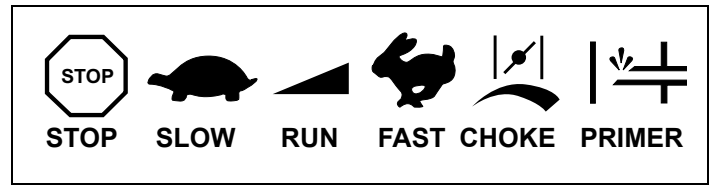

Figure 17. Typical Engine Symbols
2. Move Equipment Control (see equipment manufacturer's instructions) or Engine Throttle Control to "FAST" position, if present. See Figure 17.
3. Move Equipment Control (see manufacturer's instructions) or Engine Throttle Control to "FAST" position. See Figure 17.